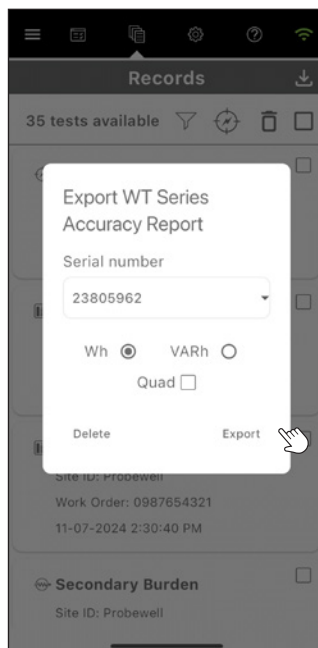

Figure 2
- Click Export to close the window and continue the export process (Figure 2).